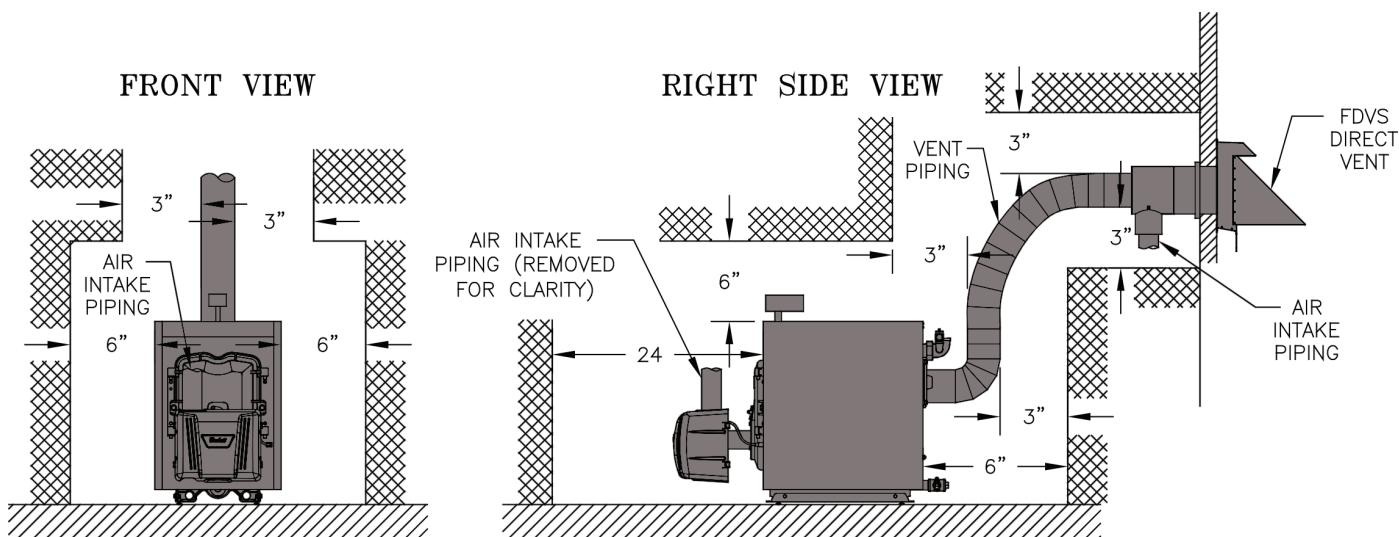

Figure 2B: Direct Vent - Minimum Installation Clearances To Combustible Materials (Inches)
- 24" for rear smoke box cleaning and disconnecting vent pipe from boiler adaptor for servicing (if required) - **Direct Vent** (see Figures 2B).